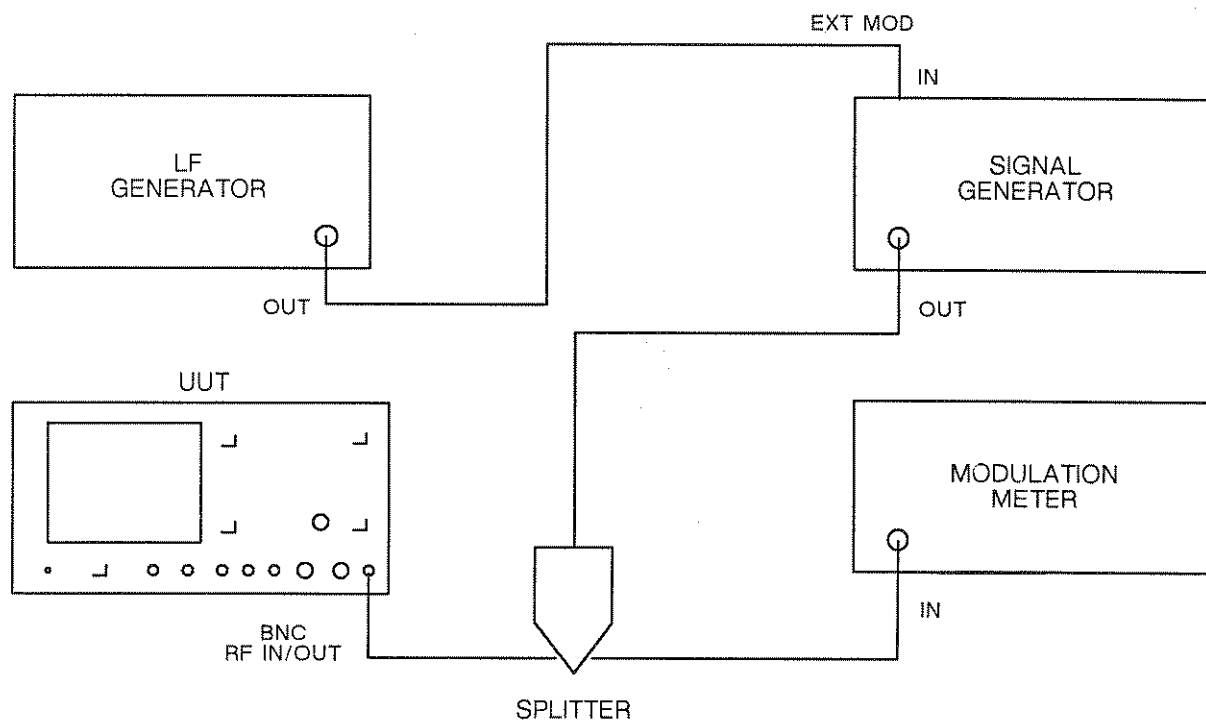

Fig. 5-5 Test equipment connections for modulation meter AM and FM
- (2) Set the UUT to TX, AM, 0.3 to 3.4 kHz BAND PASS filter, BNC input socket.
- (3) Set the signal generator to carrier frequency 100 MHz, level 7 dBm, 80% AM, 1 kHz internal modulation rate.
- (4) Set the modulation meter to monitor AM in a 0.3 to 3.4 kHz bandwidth.
- (5) Check that the AM level indicated on the UUT display is within  $\pm 5\%$  of reading  $\pm 1$  digit of modulation depth indicated on the modulation meter. Check that the AM bar chart indicates the AM being applied.
- (6) Repeat the above for modulation depths from 0 to 90% and carrier frequencies between 1.5 and 100 MHz.
- (7) Repeat for modulation depths from 0 to 80% and carrier frequencies between 1.5 and 400 MHz.
- (8) Connect an LF generator to the signal generator as shown in Fig. 5-5.
- (1) Connect the equipment as shown in Fig. 5-5.
- (2) Set the UUT to TX, FM, 0.3 to 3.4 kHz BAND PASS filter, distortion/SINAD/SN off, BNC input socket.
- (3) Set the signal generator to carrier frequency 500 MHz, level 13 dBm, 25 kHz FM, 1 kHz internal modulation rate.
- (4) Set the modulation meter to monitor FM in a 0.3 to 3.4 kHz bandwidth.
- (5) Check that the FM level indicated on the UUT display is within  $\pm 5\%$  of reading  $\pm 1$  digit of modulation deviation indicated on the modulation meter. Check that the FM bar chart indicates the FM being applied.
- (6) Repeat the above for random carrier frequencies from 1.5 to 1000 MHz and random deviation between 0 and 25 kHz.
- (7) Set the UUT to TX, FM, 15 kHz LOW PASS filter, BNC input socket.
- (8) Set the signal generator to carrier frequency 500 MHz, level 13 dBm, 25 kHz external FM at 10 kHz modulation (from the LF generator).
- (9) Set the modulation meter to monitor FM in a 30 Hz to 50 kHz bandwidth.
- (10) Set the synthesized LF generator to give a 10 kHz sinewave. Adjust the level to suit the external modulation input of the signal generator.
- (11) Check that the modulation level indicated on the UUT display is within  $\pm 6.5\%$  of the modulation indicated on the modulation meter. Ensure that the correct filters are selected on both the UUT and the modulation meter according to the modulation rate being used.